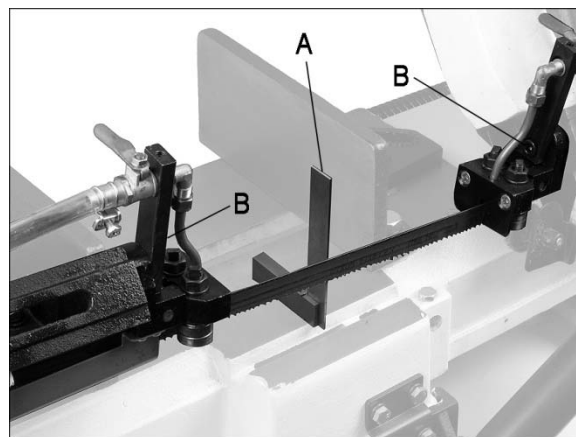

Figure 13
2. Place machinist's square (A, Figure 13) on table and against blade.
4. If adjustment is needed, loosen screws (B, Figure 13) and rotate blade guide assemblies until blade makes contact with square along its entire width.
5. Tighten screws (B).